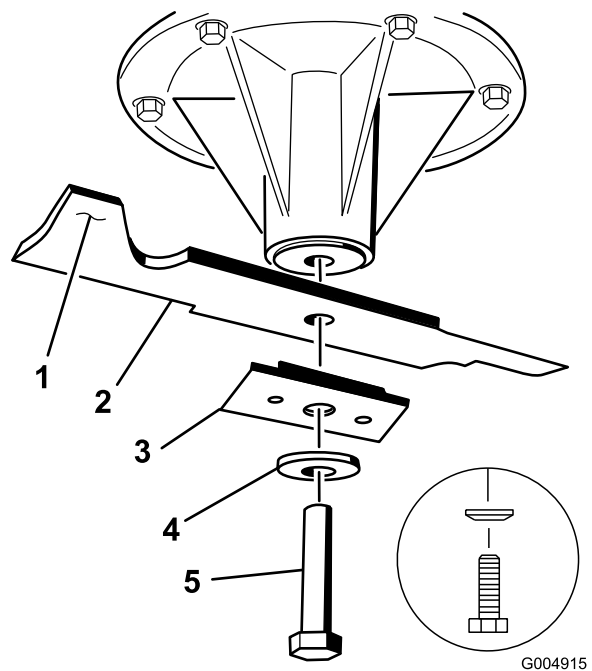

Figure 75
3. For 36 and 52 inch mower decks, remove the blade bolt, curved washer, blade stiffener, and blade from the spindle shaft (Figure 75).
3. For 36 inch and 52 inch mower decks, install the blade, stiffener, curved washer, and blade bolt (Figure 75).